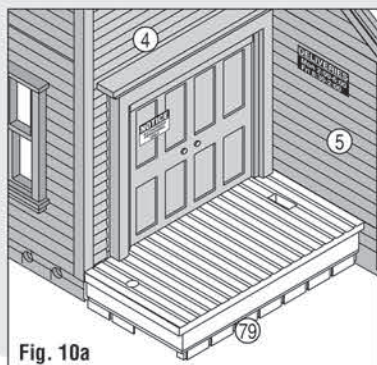
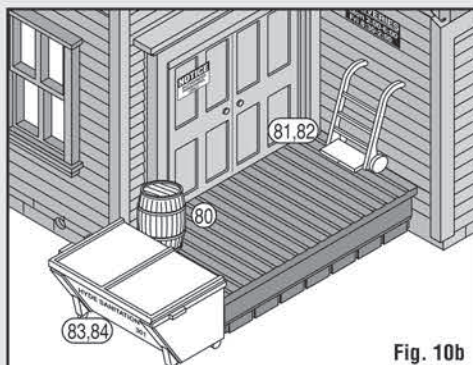

Fig. 10a
Fig. 10b
- Install Back Dock (79) in place on Walls (4) and (5) (Fig. 10a).
- Glue Wheels x2 (82) to Handcart (81) and Dumpster Front (83) to Dumpster Frame (84).
- Glue Handcart Assembly (81,82), Dumpster Assembly (83,84) and Barrel (80) in place on Dock (Fig. 10b).